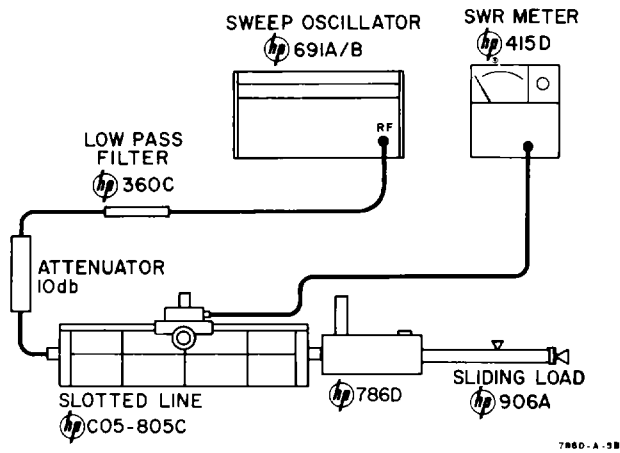

Figure 9. SWR Check
- a. Set up test equipment as shown in Figure 9.